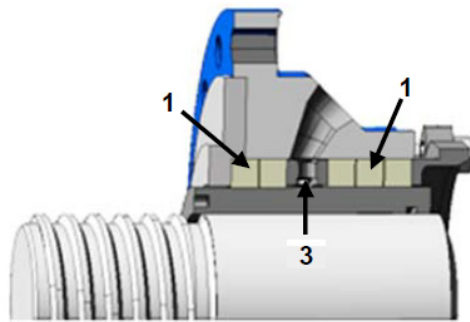

Figure 9-3: KE Design
- **KE:** (Figure 9-3; **1** is the packing and **3** is the lantern ring.) The KE design is used where minimum water usage is desired. One or two rings of packing are located between the lantern ring and the wear plate to restrict seal water flow into the pump cavity, while the packing rings behind the lantern ring seal to the atmosphere. Because this design is the most sensitive design to variable operating conditions and abrasive wear, it requires more careful maintenance.